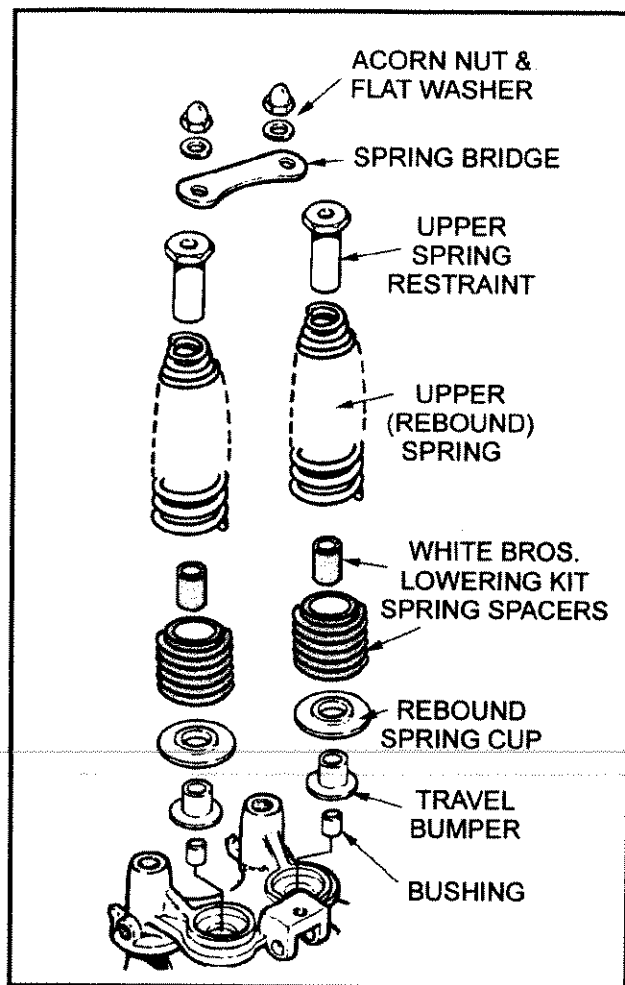

Fig. 4 Lowering Kit Spacers
12. Tighten the Springer tool until the compression springs are bottomed. Reinstall the rebound bushings, travel bumpers and spring cups. Set the Spring Spacers from this kit on the spring cups and slide the Rebound Spacers onto the spring rods (fig. 4). Reinstall the stock rebound springs. Screw the spring restraints until from 5/8-3/4" of threads are exposed at the tops. Each side must have exactly the same amount of threads exposed. Replace the spring bridge, flat washers and nuts. Nut torque is 30-35 ft/lbs.